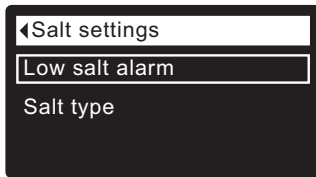

FIG. 37
3. Press the SELECT (O) button to display the Salt settings menu (See Figure 37).
7. Press the SELECT (O) button. The display will go back to the Salt settings menu (Figure 37).